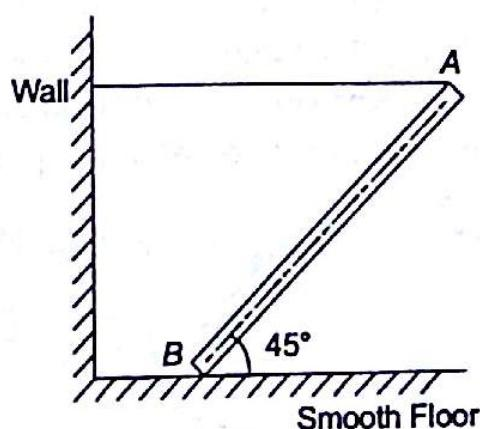

Fig. 17.10
- 17.1 A bar AB of mass m and length l is held in position as shown in Fig. 17.10 by a horizontal string attached to the wall. If end B is placed on smooth floor and if the system is released in the position shown, determine (i) instantaneous acceleration of end B of the bar, (ii) tension in the string, (iii) normal reaction at B.